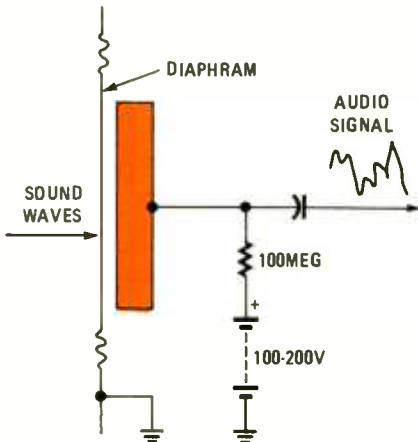

Fig. 5. The condenser microphone has a diaphragm that is one plate of a capacitor whose value varies with the sound waves striking it.
**Condenser Microphones.** Another type of high-fidelity microphone is the condenser or capacitor type. That microphone uses a diaphragm as one plate of a capacitor. Sound waves striking the diaphragm change the geometry of the plates, and hence the capacitance. See Fig. 5. The diaphragm is a tightly stretched metal or metalized plastic film. Behind the diaphragm is a metallic "button" that acts as the other capacitor plate.
The capacitor is polarized by applying 100–200 volts DC through a very-high resistance. As the diaphragm vibrates, capacitance changes appear as voltage changes when taken from the top of the load resistor in Fig. 5. Used with that circuit configuration, the microphone will directly convert capacitance variations into a varying audio-signal voltage.